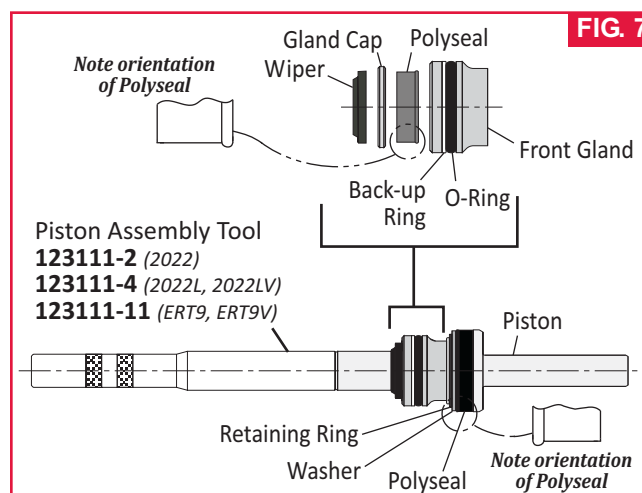

FIG. 7
4. Assemble Piston, Polyseal, Washer, and Retaining Ring (Fig. 7). **Note Polyseal orientation.**
5. Assemble Front Gland, O-Ring, Back-up Ring, Polyseal, and Gland Cap, and position Wiper (Fig. 7). **Note Polyseal and Wiper orientation.**